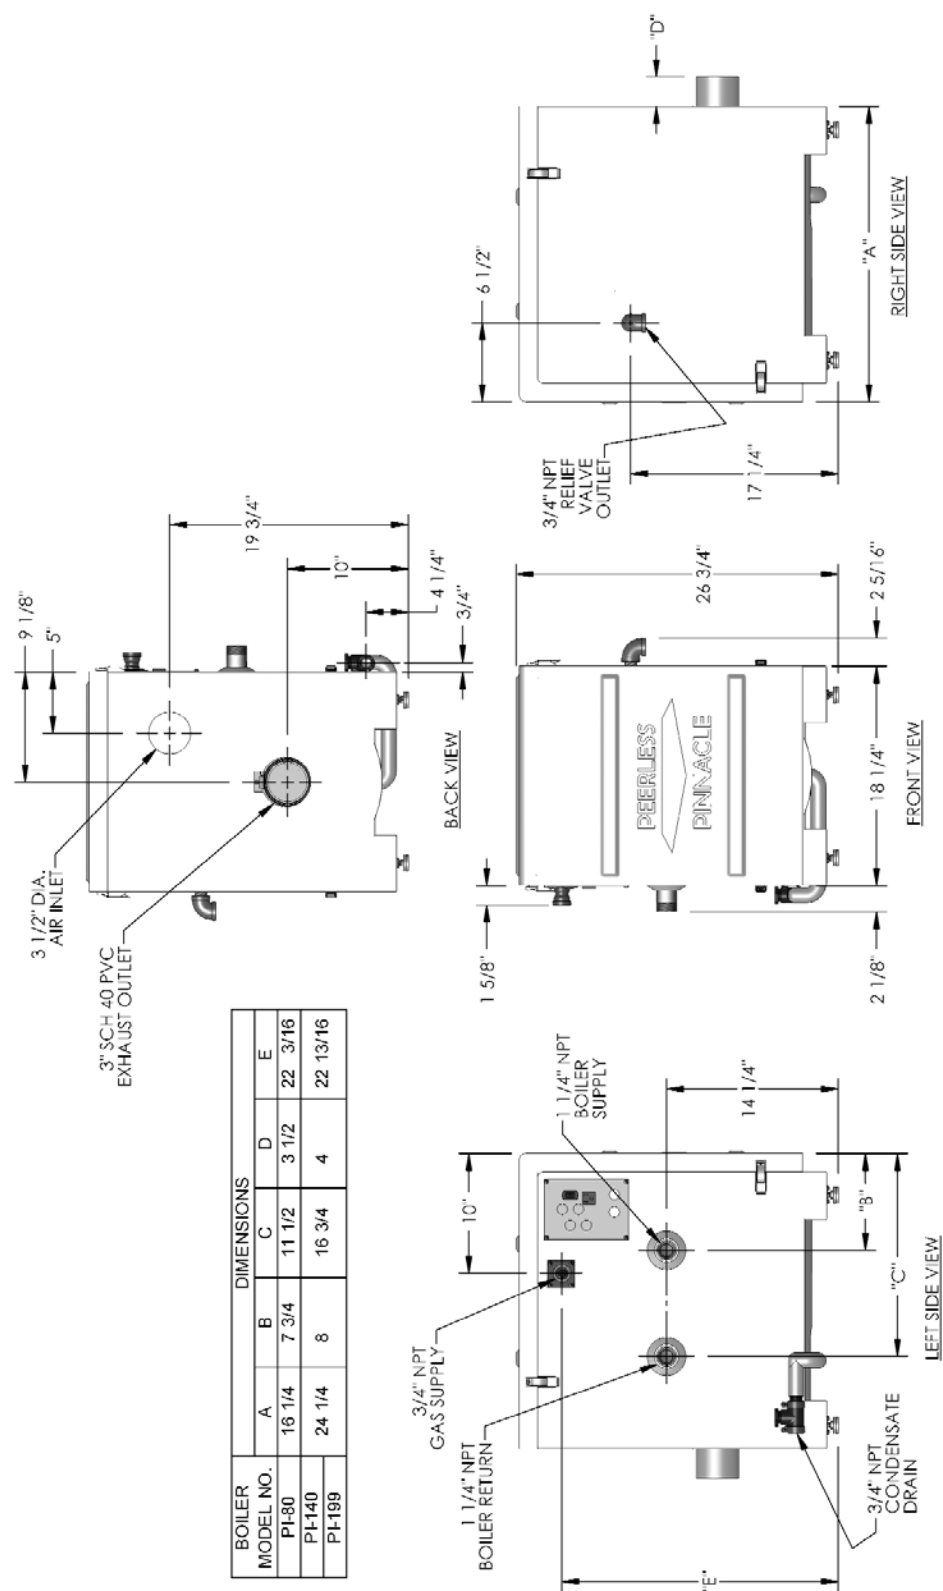

Figure 10.2: PI-80/PI-140/PI-199 Dimensions
2. Figure 10.2 shows the dimensions of the PI-80, PI-140 and PI-199.